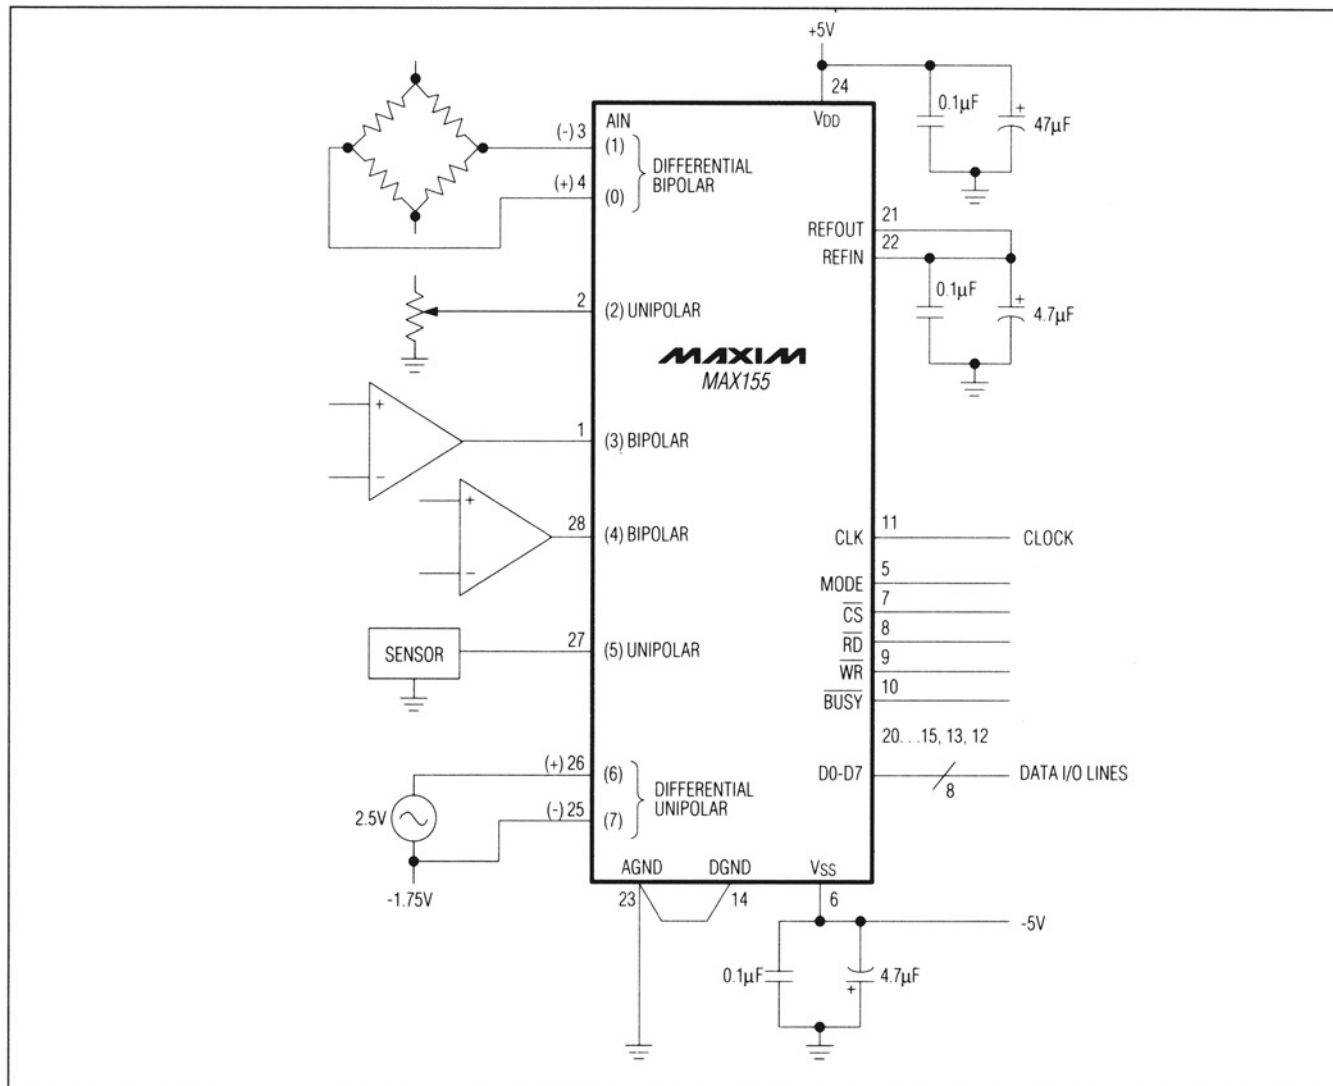

Figure 10. MAX155/MAX156 Typical Operating Circuit
where N is the number of channels converted. This includes one clock cycle of uncertainty. For a single channel and 5MHz clock, the conversion time is $(9 \times 1 \times 2) / 5MHz = 3.6\mu s$. For the MAX155, the maximum conversion time for 8 channels is $(9 \times 8 \times 2) / 5MHz = 28.8\mu s$. In the application example (Figure 10), six conversions are configured, and the conversion time is $(9 \times 6 \times 2) / 5MHz = 21.6\mu s$.
MAX155/MAX156 address and configuration inputs for this example were determined by selecting the desired channel configurations in Tables 2 and 3. Figure 10 illustrates the configuration outlined in Table 5.
3. Data is read from RAM with INH = L and consecutive \overline{RD} strobes. Note that in the 6 channel configurations described in this example (Figure 10), 6 \overline{RD} pulses access all available data, starting with the differential channel (1,0). Additional \overline{RD} pulses loop around, accessing the lowest channel data again.